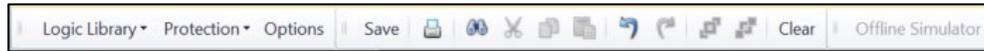

Figure 2-24. BESTlogicPlus Toolbar
Step 16: Click the Save button to save the logic to *BESTCOMSPPlus* memory for later inclusion in the settings file. The *BESTlogicPlus* toolbar is shown in Figure 2-24.